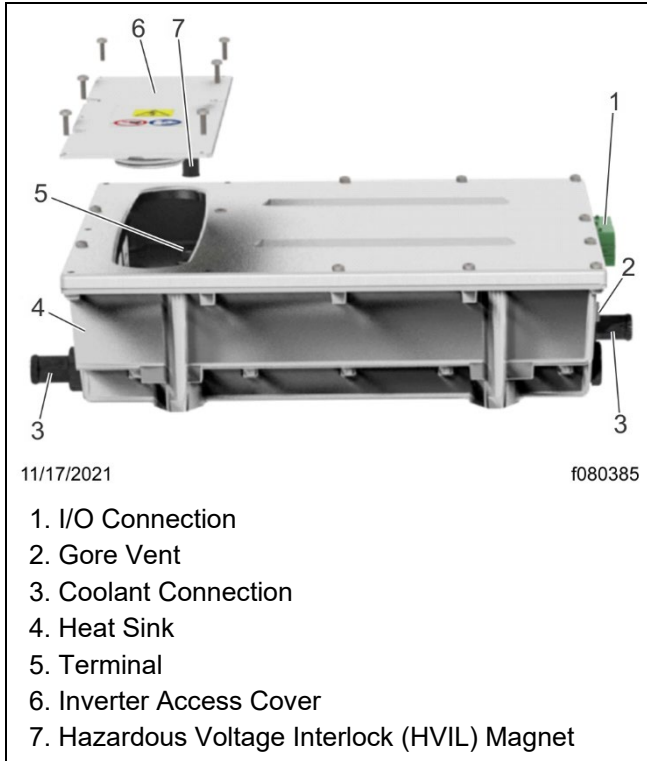
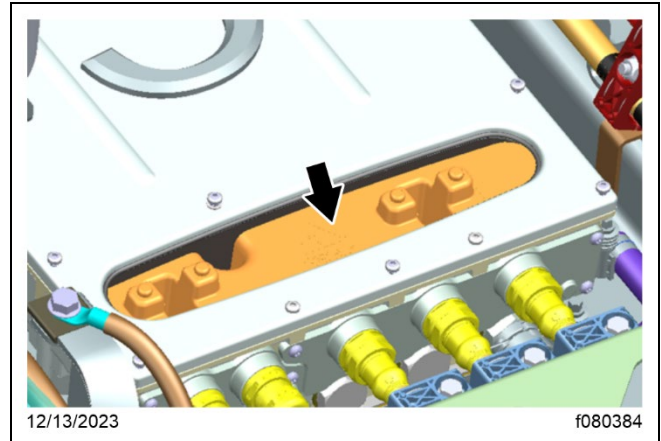

Fig. 12, Inverter Components
Fig. 13, Delayed Access Cover
7. Remove the inverter access covers and the delayed access covers from all inverters. See Fig. 12 and Fig. 13.